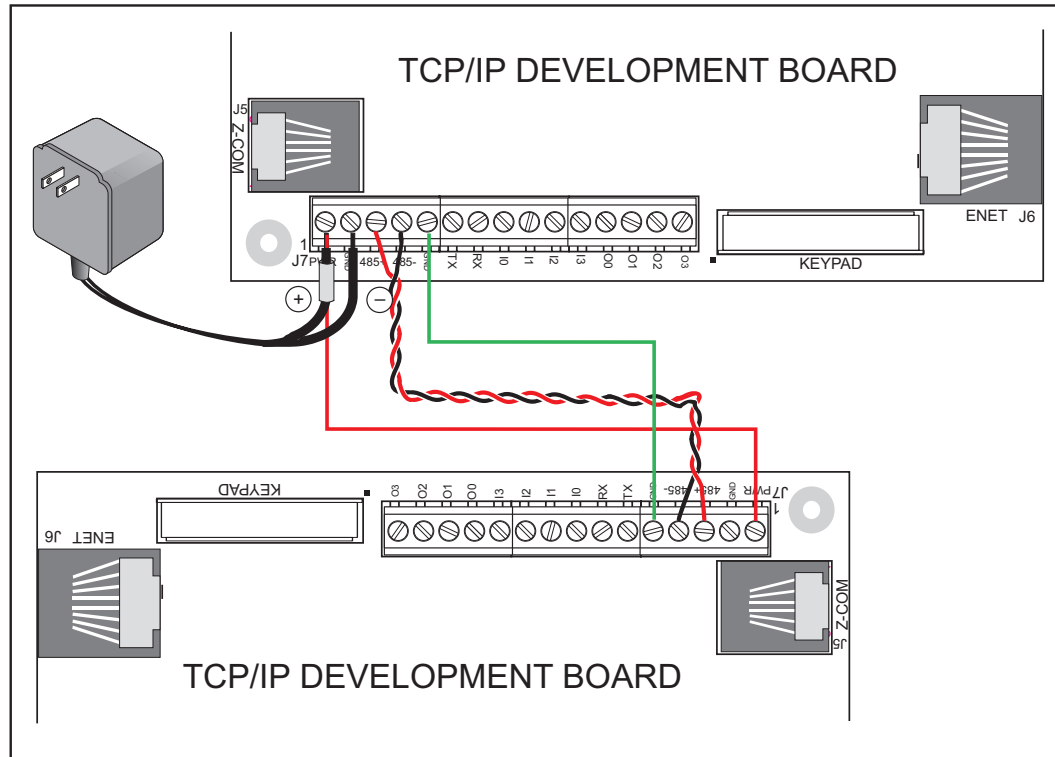

Figure 10. TCP/IP Development Board Setup for RS-485 Serial Communication Demonstration
1. Connect 485+ to 485+, 485- to 485-, and GND to GND as shown in Figure 10 below. If you do not have a separate wall transformer for the other board, also connect PWR to PWR as shown in Figure 10.